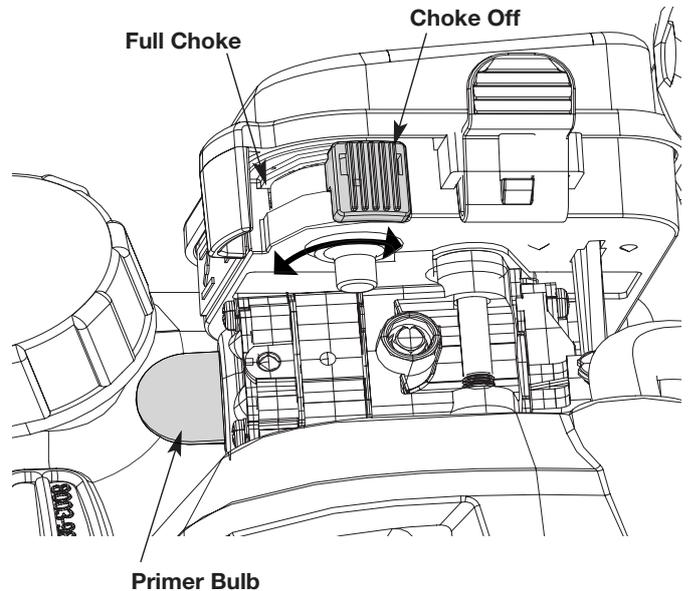

Fig. 6
3. Slowly press and release the primer bulb 10 times (Fig. 6).
4. Move the choke lever to the Full Choke position (Fig. 6).